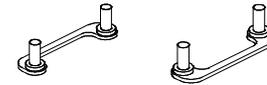

Figure 2-5
- URM Attach Mount (URMAM) - Bolt/Bridge assemblies inserted up through the bottom of the mainboard. Then secures the URM to URMAM (two URMAM required per URM). (Refer to Figure 2-5)